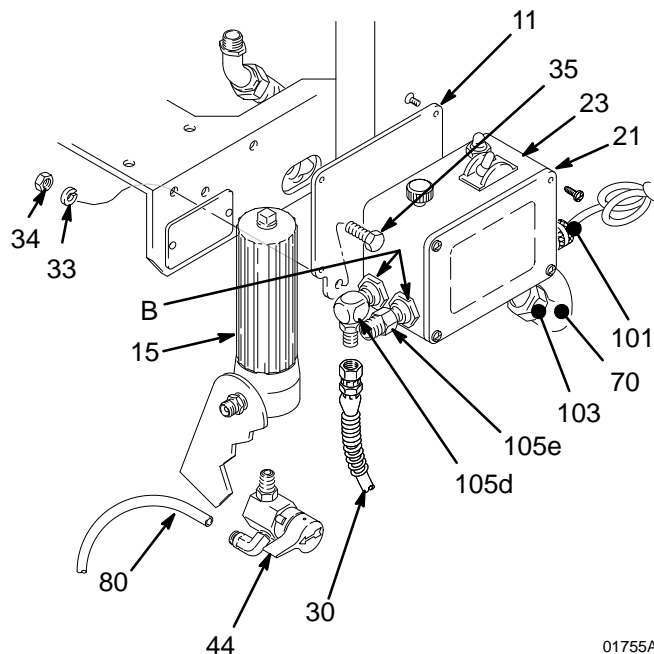

Fig. 19
6. Unscrew the conduit nut (103). See Fig. 19. Pull the pressure control away from the conduit while carefully guiding the wires through the connector.
7. Loosen the knurled part of the strain relief bushing (101) and unscrew the fitting from the pressure control. See Fig. 19.
8. Remove the mounting screws (35) and pull the pressure control away from the sprayer. See Fig. 19.
9. Remove the mounting plate (11) and secure it to the new pressure control. See Fig. 19.